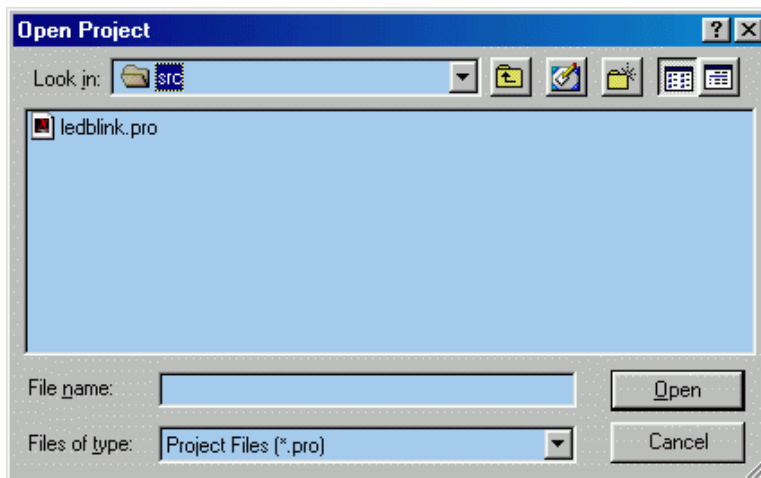

Figure 12. src Folder
6. Select the Z8F64xx_ledBlink folder and then the src folder to access the project file named ledBlink.pro. See Figure 12.